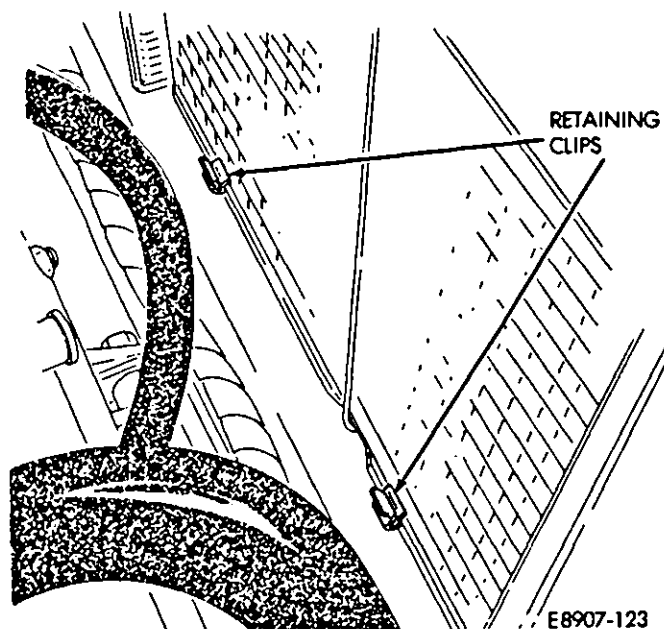

Fig. 16—Fan Shroud Retaining Clips
- (1) Lower fan/shroud assembly into place, ensure that tabs at bottom of fan shroud fit into retaining clips in lower radiator crossmember (Fig. 16).